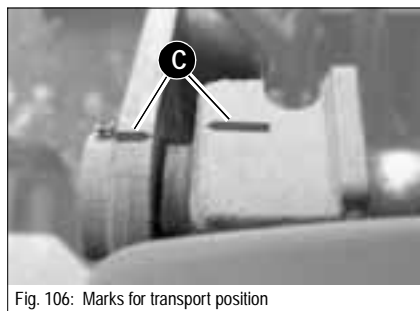

Fig. 106: Marks for transport position
- Marks **C** on the lift frame and the machine frame are lined up (figure 106)